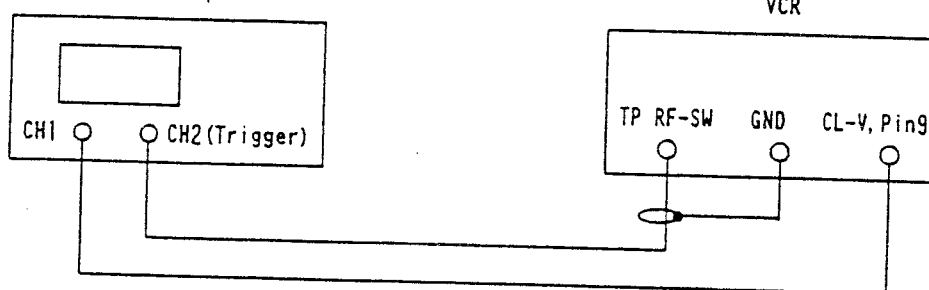

Fig. 2-8
1. Connect the equipment as shown in Fig. 2-8.